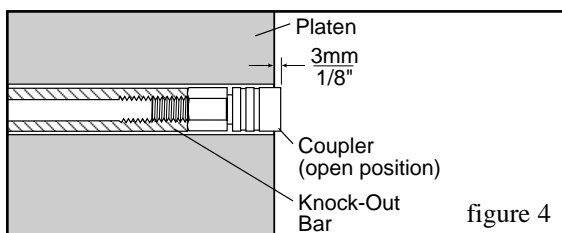

figure 4
2. Insert the extension bar and coupler through the platen and into the press ejector plate. For presses with non-adjustable ejector home position, install the coupler (in the open position) so it extends 1/8"(3.18mm) past the platen surface. The coupler, in the closed position, will be flush with the platen surface. See figure 4.